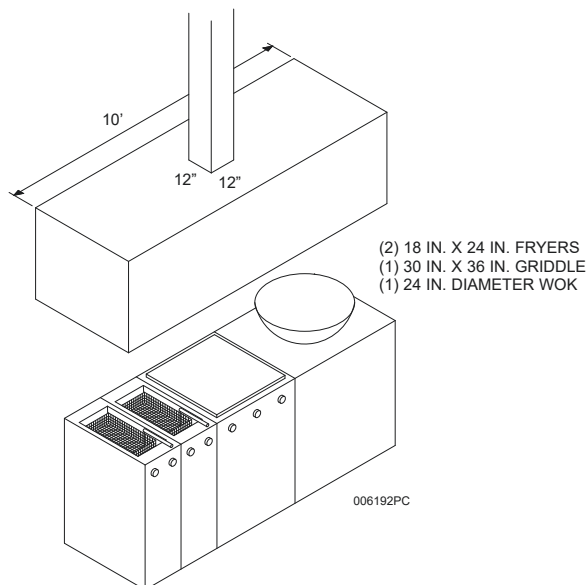

Figure 3-19
The cooking area that requires protection consists of a single 48 in. perimeter exhaust duct, a 10 ft. long "V" bank plenum, (2) 18 in. wide x 24 in. fryers, a 30 in. x 36 in. wide griddle, and a 24 in. diameter wok. See **Figure 3-19**.